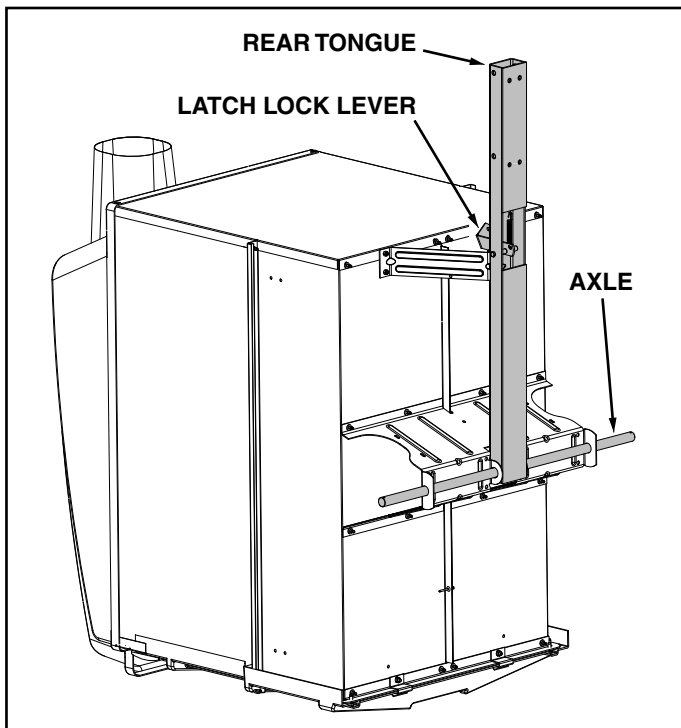

FIGURE 1
- 1. Tip the cart back to rest upright on the rear of the cart. See figure 1.
- 2. Install the rear tongue and the axle onto the cart body, sliding the axle through the wheel support and the tongue. Lock the tongue to the latch stand bracket with the latch lock lever. See figure 1.